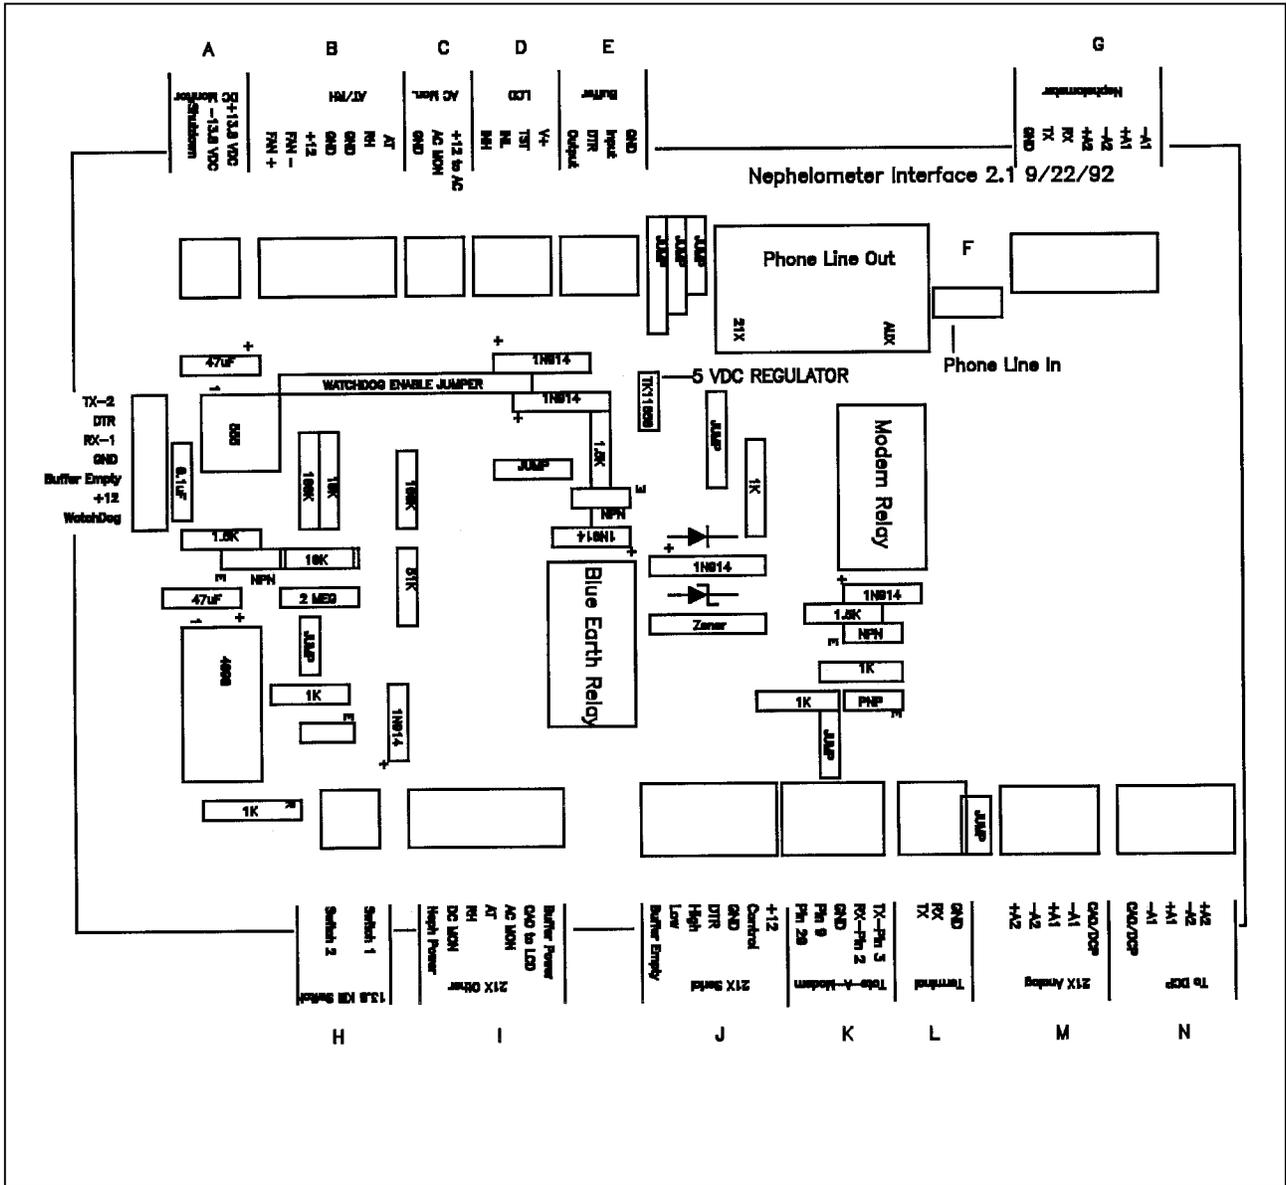

Figure 4-6. Interface Circuit Board Layout.
Figure 4-6 shows the layout of the interface circuit board. Tables 4-3 and 4-4 detail the wiring related to the Interface Circuit Board (CB).